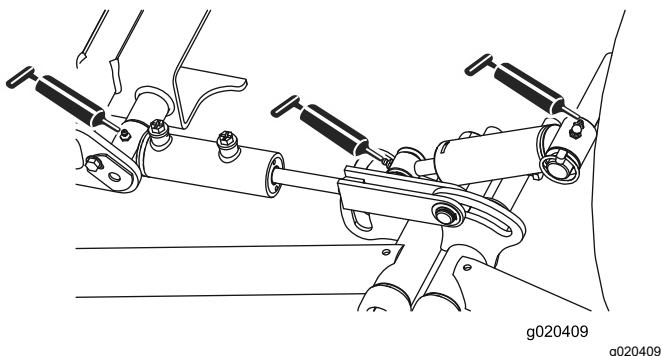

Figure 42
- Front lift-arm pivots and lift cylinders (3 each); refer to Figure 42.